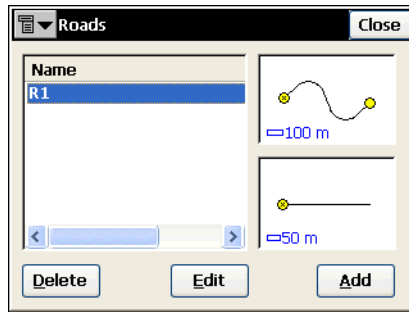

Figure 4-29. Roads
1. In the *Roads* screen (Figure 4-29) tap the **Add** button.